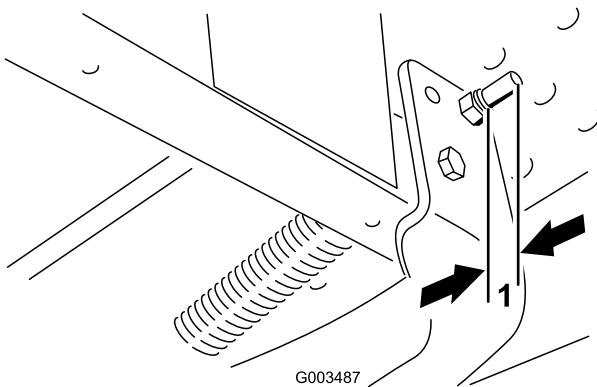

Figure 19
3. Tighten the lock nuts securing the spring rod until 1/4 to 1/2 inches (6 mm to 13 mm) of threads are showing to apply tension to the spring (Figure 19).